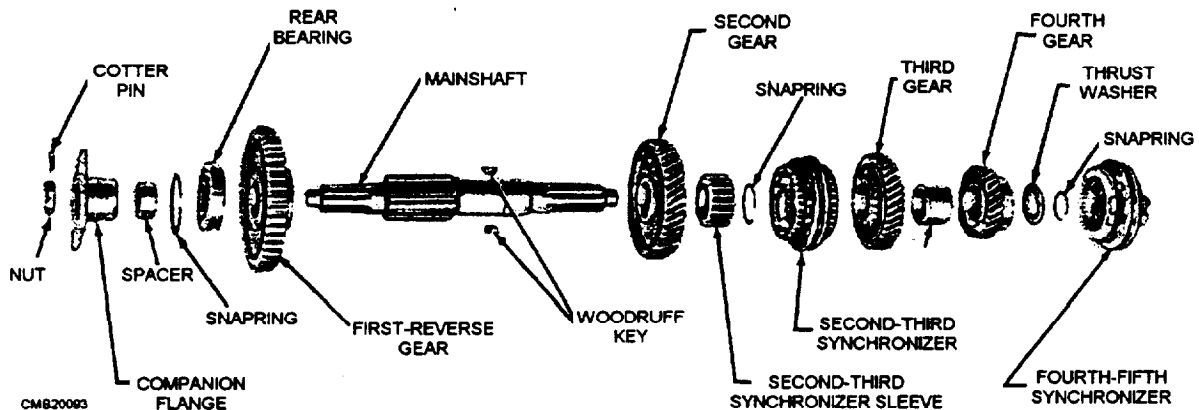

Figure 4-16.—Transmission main shaft assembly-exploded view.
**MAIN SHAFT.**—The main shaft, also called the *output shaft*, holds the output gears and synchronizers (fig. 4-16). The rear of the shaft extends to the rear of the extension housing where it connects to the drive shaft to turn the wheel of the vehicle. Gears on the shaft are free to rotate, but the synchronizers are locked on the shaft by splines. The synchronizers will only turn when the shaft itself turns.